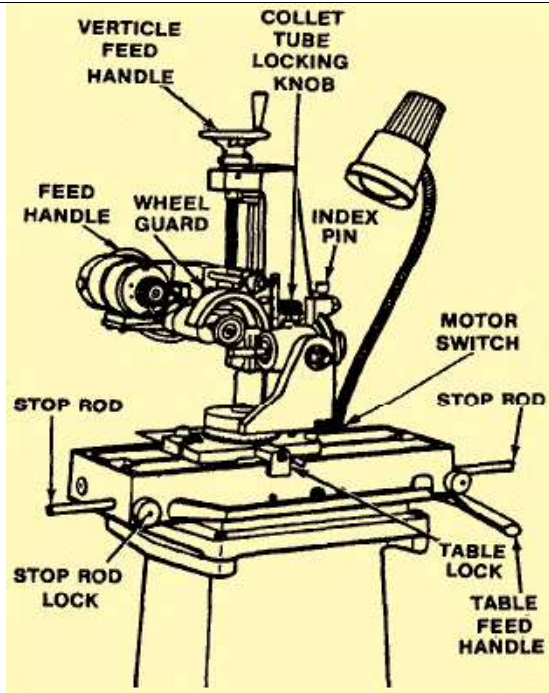

Figure 5-5. Bench-type tool and cutter grinder.
**Bench-Type Tool and Cutter Grinder:** Is used to grind a large variety of small wood and steel cutters, as well as, slitting saw cutters up to 12 inches in diameter using the saw grinding attachment. The Bench-Type Tool and Cutter grinder was designed primarily to grind end mills. (Figure 5-5).